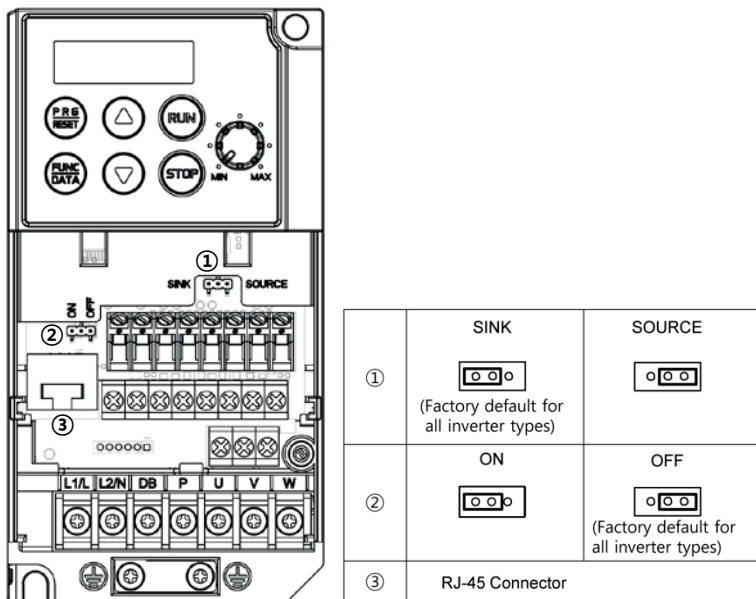

Figure 2.11 Locations of Jumper Switches and RJ-45 Connector
Switching the jumper switches (shown in Figure 2.11) allows you to customize the specifications of the digital I/O terminals and the RS-485 communication terminating resistor.
① SW10	<p>SINK/SOURCE switch for digital input terminals</p> <ul style="list-style-type: none"> <li>• To use digital input terminals [X1] to [X3], [FWD] and [REV] in the SINK mode, set a jumper in the sink position, to use them in the SOURCE mode, set a jumper in the source position. (See Figure 2.11.)</li> <li>• To switch between SINK and SOURCE modes, use a mini needle-nose pliers or the similar tool to change the mounting position of the jumper.</li> </ul>
② SW9	<p>Terminating resistor ON/OFF switch for RS-485 communication</p> <ul style="list-style-type: none"> <li>• To connect an optional remote keypad, set a jumper in the OFF position (factory default).</li> <li>• If the inverter is connected to the RS-485 communications network as a terminating device, set a jumper in the ON position.</li> <li>• To switch the terminating resistor ON and OFF, use a mini needle-nose pliers or the similar tool to change the mounting position of the jumper.</li> </ul>
Figure 2.11 shows the locations of jumper switches and the RJ-45 connector.